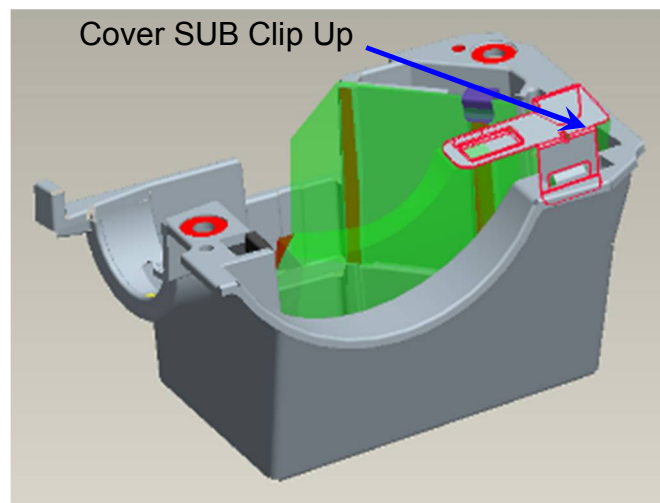

Fig. 2-6
- IV. Hook "Cover SUB Clip Up" on SUB HSG to fix SCM. (Fig. 2-6)